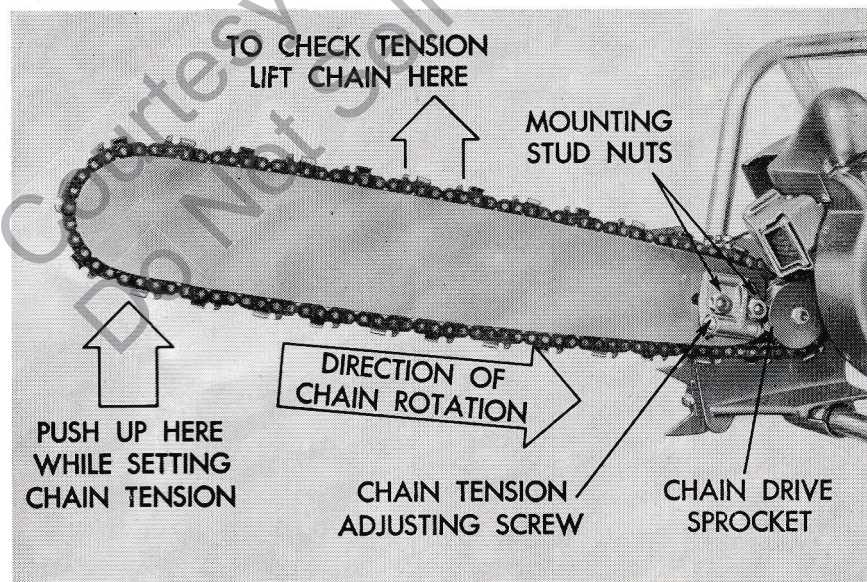

Figure 2—Assembling Guide Bar and Chain
#### b. Assembling Straight Blade (see figure 2)
(2) Turn the chain tension adjusting screw counterclockwise as far as it will go without forcing. This will give clearance to assemble chain on the guide bar.
(3) The chain must be assembled on the guide bar so that the cutting edges of the chain teeth will face in the direction of rotation. (See figure 2.) After slipping chain over the drive sprocket, feed chain into the guide bar groove.
(1) If the unit is being converted from straight blade to bow saw, remove the chain tension device, guide bar and chain from unit. Leave the guide bar shim in place on the gear case studs.
(2) Position chain on bow guide. Be sure chain is installed with the cutting edges rotating toward the bottom of the sprocket. (See figure 2.)
(3) Hold bow attachment and place chain in position on sprocket. Angle bow to clear muffler, and place on mounting studs. Locate adjusting plate on studs and lightly hold in place with two  $\frac{3}{8}$ -16 hex nuts and lockwashers.